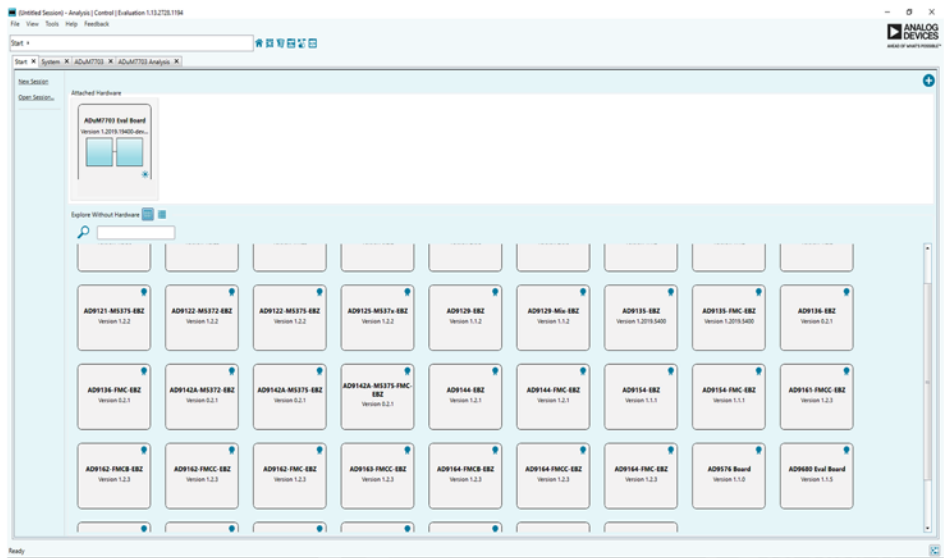

Figure 12. ACE Software Main Window
1. In the **Start** menu of the PC, click **All Programs > Analog Devices > ACE > ACE.exe** to open the ACE window shown in Figure 12.